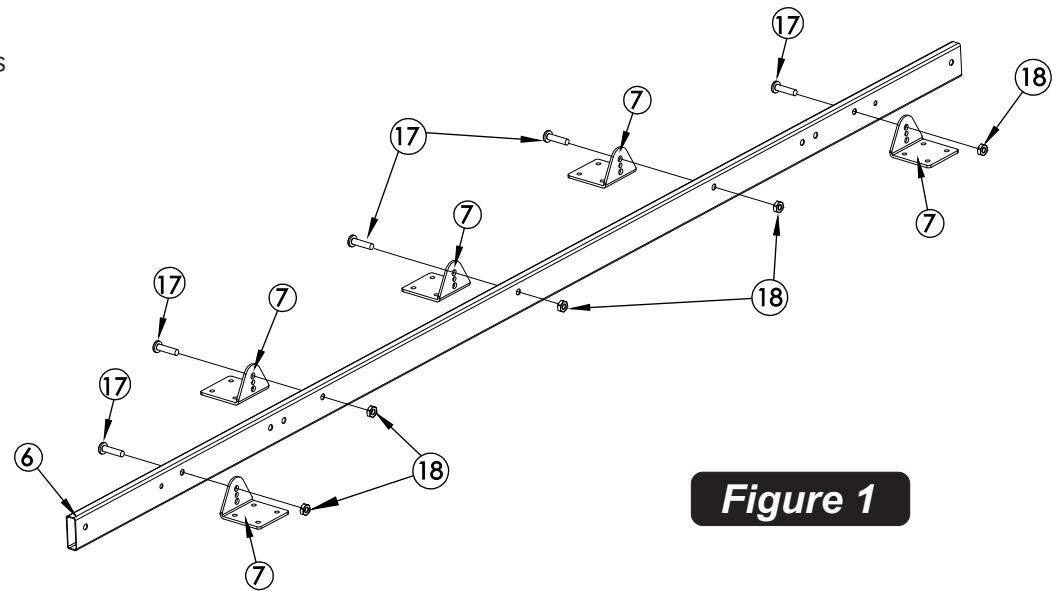

Figure 1
1. Attach 5 Mounting Brackets (#7) to Connecting End Rail (#6) as shown in Figure 1. Attach each Bracket (#7) with 1 bolt (#17) and 1 Locknut (#18). **IMPORTANT:** Brackets must be attached exactly as shown. Tighten nuts tight but **do not overtighten** crushing tube.